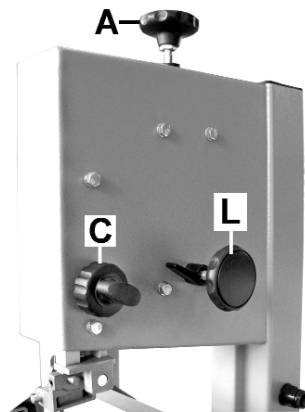

fig.2
- 4.3.2. If adjustment is needed, turn the tracking knob (fig.2.L) whilst continuing to turn the upper blade wheel. Note the effect on the tracking and continue to turn tracking knob until tracking is correct.
SM1303 - loosen the locking knob and turn the adjustment knob (fig.2.C) to lower the guide to required position. Tighten locking knob.